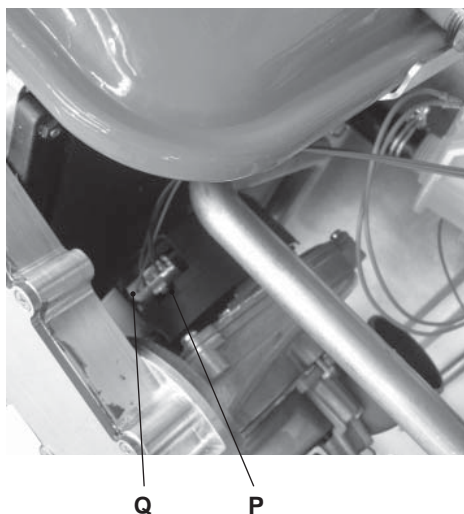

Fig. 9.8
- Disconnect the fan connector Q by pressing the plastic hook P positioned at the bottom part of the connector (Fig. 9.8).